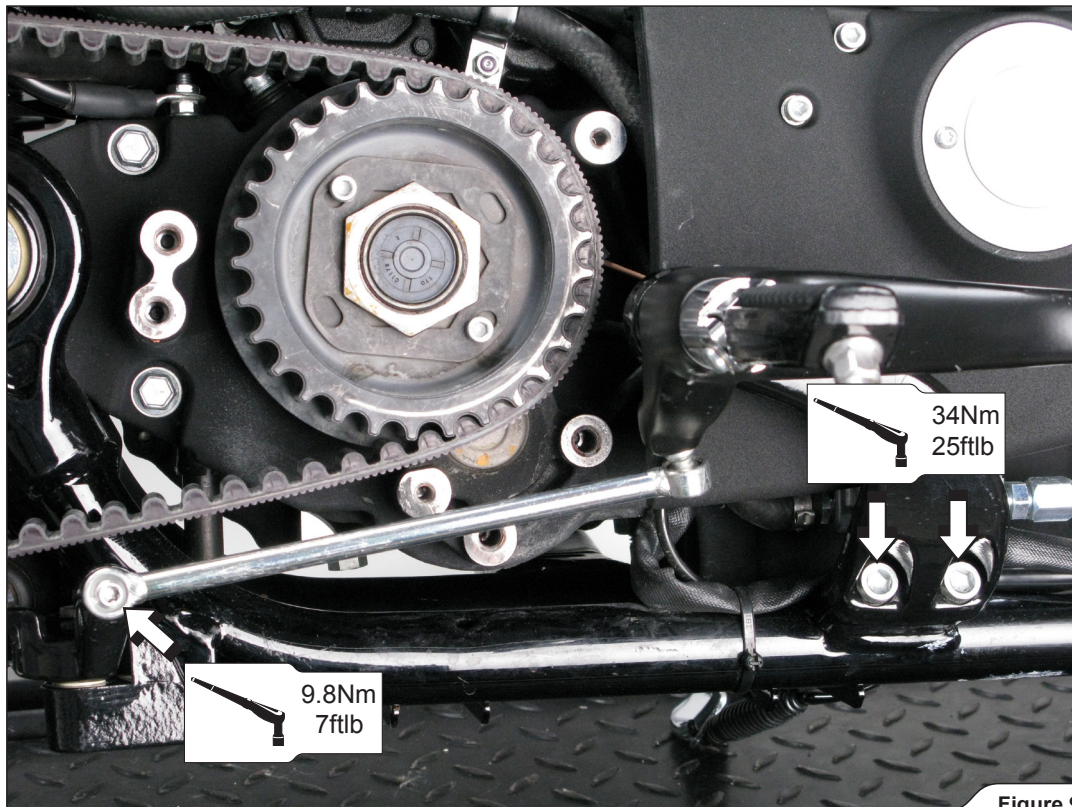

Figure 9
1. Reinstall the rear brake push rod ball joint and the foot peg mount (Figure 9).